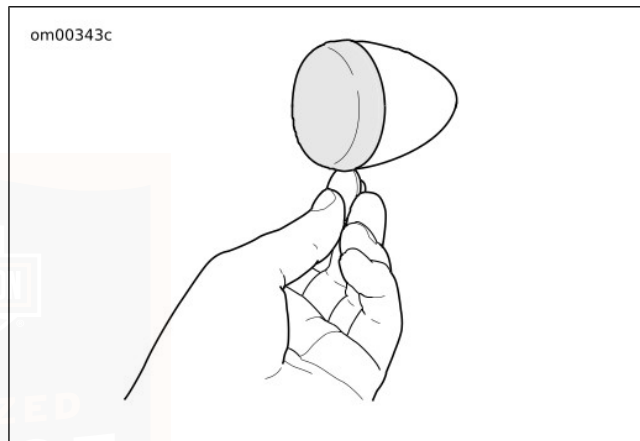

Figure 83. Remove Lens
1. See Figure 83. Insert coin in notch. Carefully twist until the lens cap pops out of the lamp housing.